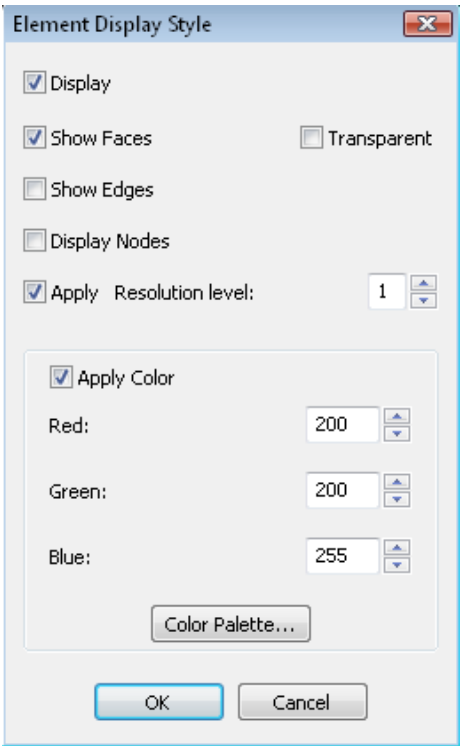

Figure A.10 Element Display Style Window.
- Again right-click on the mesh while holding down the *shift-key* and select: **Selected Elements** → **Display Style** to view a pop-up window shown in Figure A.10.